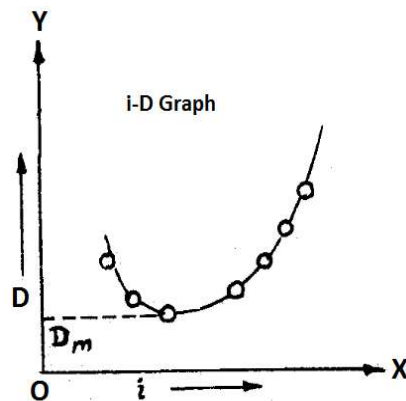

Fig. 4: Graph of angle of deviation vs angle of incidence
1. Plot a graph (i vs D) taking angle of incidence i along the X-axis and angle of deviation D along the Y-axis. The nature of the graph is shown in Fig.4.
2. Draw a horizontal line as a tangent to the lowest point of the curve. Intersection of this horizontal line on Y-axis gives the angle of minimum deviation D_m (Fig.4).